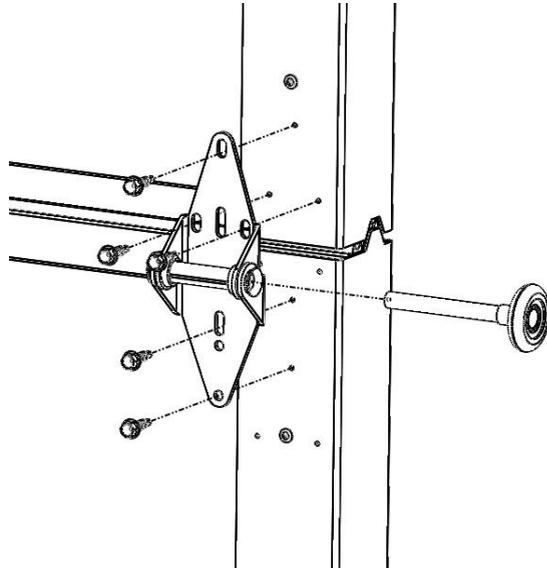

Figure 13 Panel and hinge assembly detail.
4. Place Panel 2 on top of Panel 1 and attach the next hinge in order. In the designated holes screw in the bottom of the hinge first, then the top of the hinge (**SEE FIGURE 13**). Make sure a good seal is made.